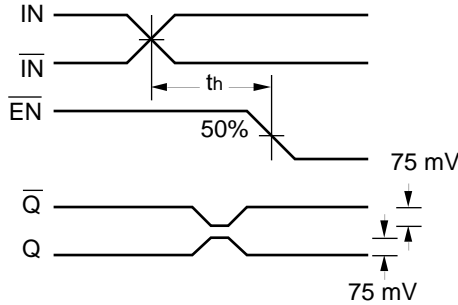

Figure 2. Hold Time
- The hold time is the minimum time that \overline{EN} must remain asserted after a negative going IN or a positive going \overline{IN} to prevent an output response greater than ± 75 mV to that IN/ \overline{IN} transition (see Figure 2).